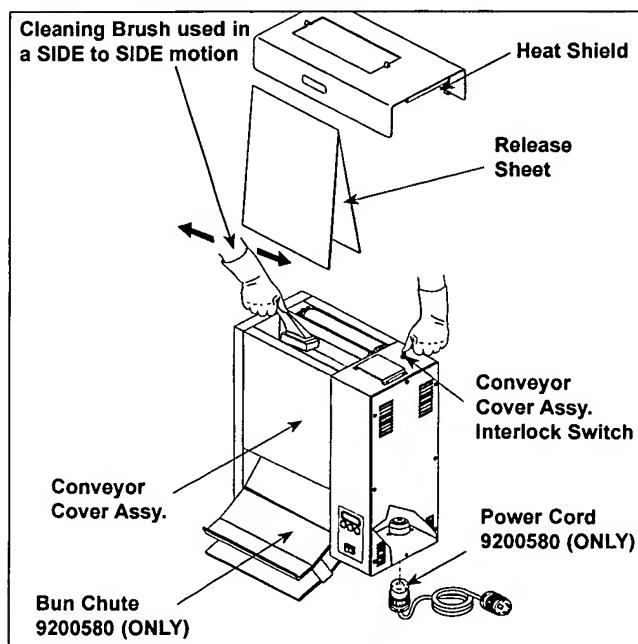

Figure 12. Components
2. Put on protective gloves. Remove heat shield, bun chute. (Figure 12).
5. Depress and hold the activation button with one hand. Use your other hand, hold the scrub brush after dipping in sanitizer solution (Figure 12).
6. Use a back and forth motion covering the belt surface for 20 seconds per side (two rotations of the belt flap). Repeat on second belt (Figure 12)
2. Remove the heat shield, Open the front conveyor cover, rear conveyor cover by lifting the covers in an upward motion then tilting the tops away from the unit. Remove the bun chute and release sheet (Figure 12).
6. Install a new release sheet (Figure 12).
7. Close the front conveyor cover and rear conveyor covers by lifting the covers and gently pushing upward and into the toaster until the covers latch onto the yellow support rods.(Figure 12).
8. Install bun chute and heat shield (Figure 12).